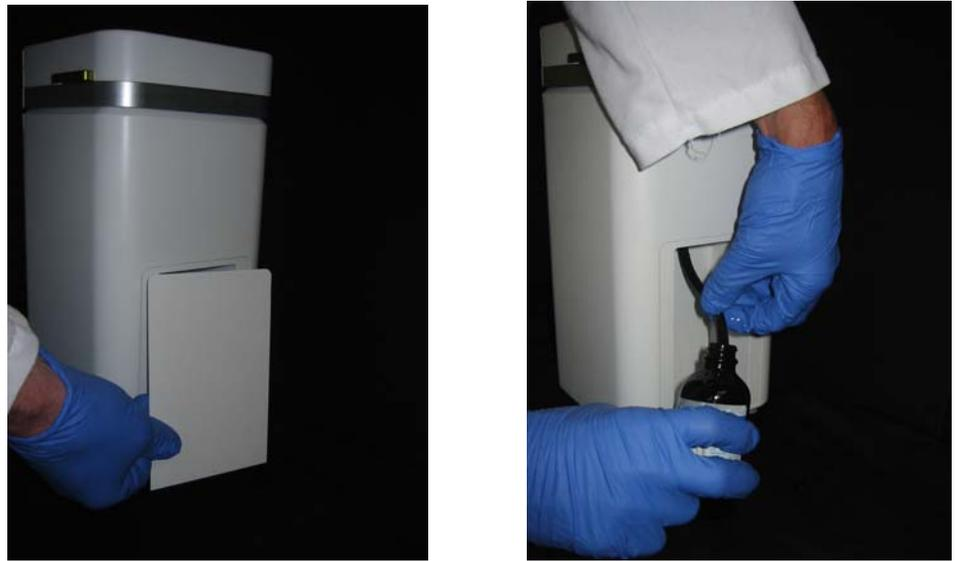

Figure 3.26 Removing the cover and removing the oil bottle.
1. Remove the side panel of the Imaging Oil Applicator by lifting it in the center with your finger. The side panel is held in place with magnets so it should easily pop off (Figure 3.26, left).
2. Remove the oil bottle by tipping it slightly to the side and pull the rubber tubing out from the bottle (Figure 3.26, right).